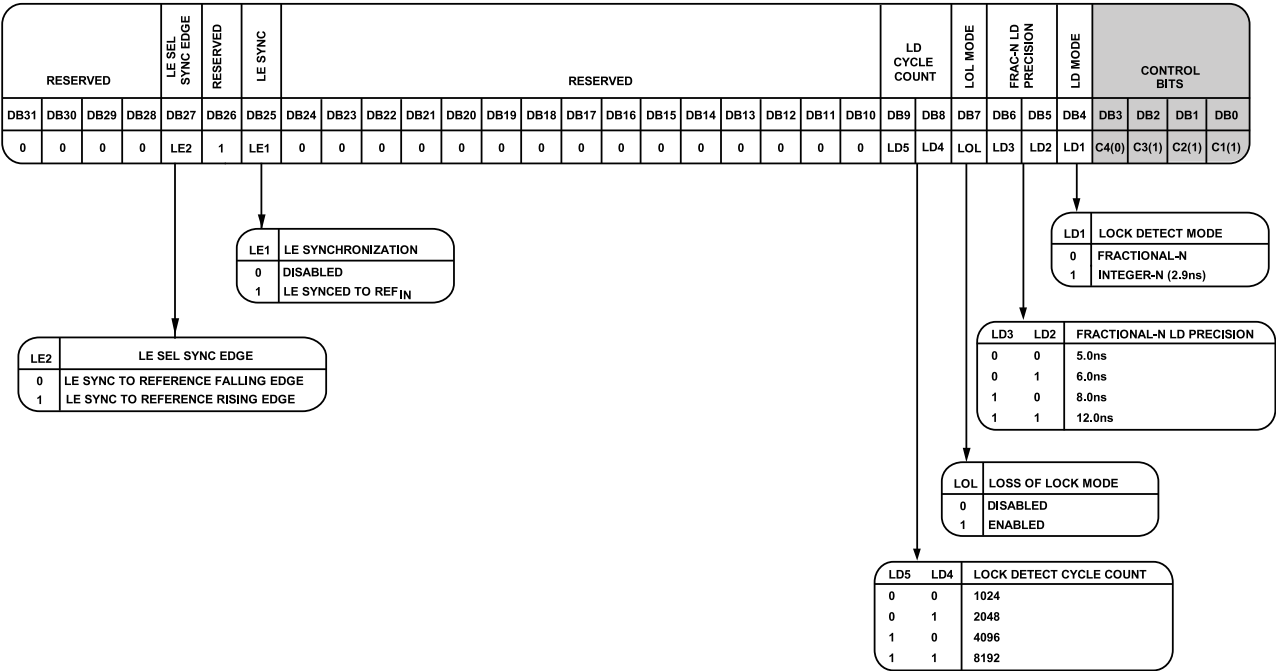

Figure 35. Register 7
With Bits[C4:C1] set to 0111, Register 7 is programmed. Figure 35 shows the input data format for programming this register.
Bit DB27 allows selection of the synchronization load enable (LE) edge to the falling or rising edge of the reference clock, which is useful for applications that require synchronization to a common reference edge (see Figure 35). To use this bit, LE sync (Bit DB25) must be set to 1.
LD5 and LD4 (Bits[DB9:DB8]) set the number of consecutive cycles counted by the lock detect circuitry before asserting lock detect high (see Figure 35 for details).